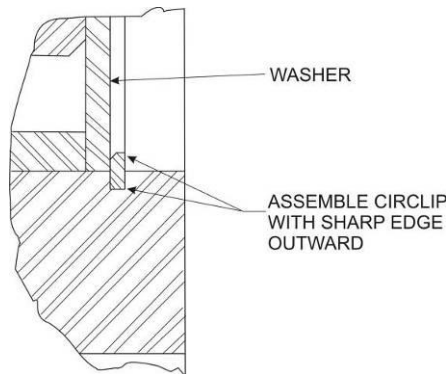

Figure 3
7. Install new circlips and new counterweight washers in the two holes on the counterweight as shown in Figure 3. Install the new circlip on one side of each counterweight with the sharp edge outward as shown in Figure 3.